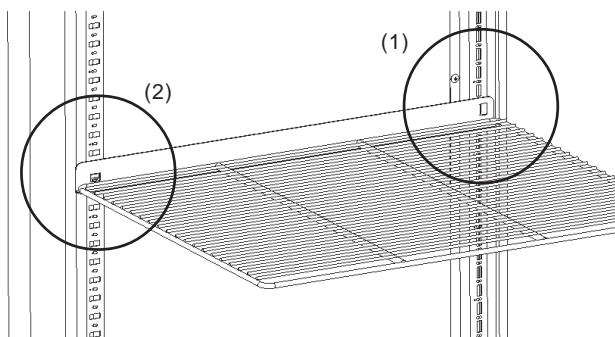

Fig. 3
- 2) Take out the accessory Shelves and Rails (R) and (L). Attach the Rails horizontally to the right and left Shelf Posts. Place the Shelf on the Rails. See Fig. 3.